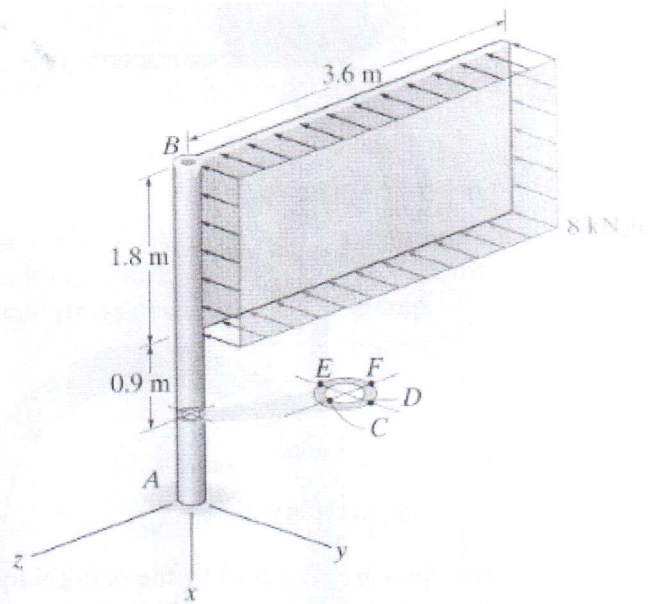

Figure 7.
- (7) The uniform sign, shown in Figure 7, has a weight of 7.5 kN and is supported by the pipe *AB*, which has an inner radius of 68 mm and outer radius of 75 mm. If the face of the sign is subjected to a uniform wind pressure of $P = 8 \text{ kN/m}^2$, determine the state of stress at points *C*, *D*, *E* and *F*. Neglect the thickness of the sign and assume that it is supported along the outside edge of the pipe.